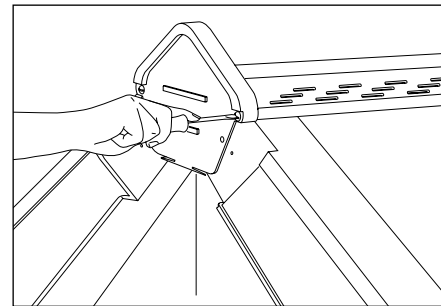

Fig. 14 – Screw fix ridge end cap
- 13 If required, trim flange of ridge and cap to fit between top course verge units. (Figs. 12 and 13). Screw ridge end cap to end of dry ridge batten by locating 30mm stainless steel screws into end of circular beads on upper flange (Fig. 14).